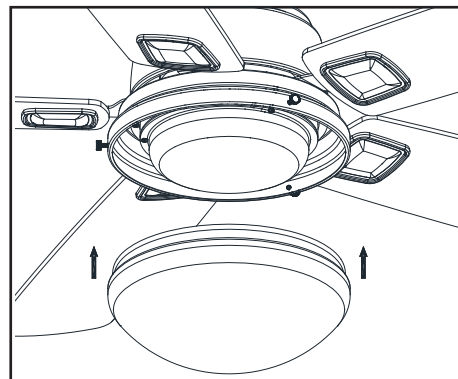

Figure 17
5. Loosen but do not remove the three screws from the light fitter assembly. (Figure 17)